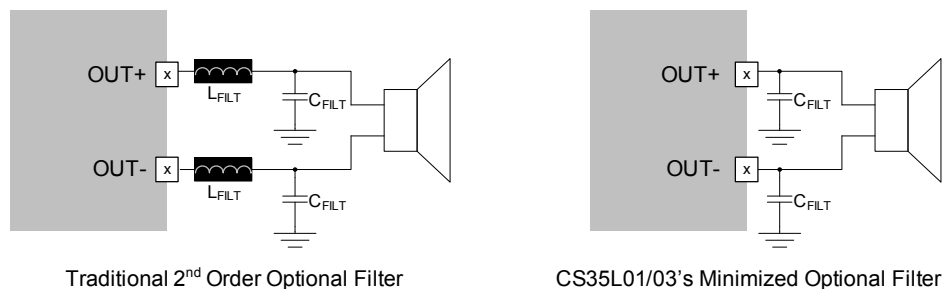

Figure 5. Optional Output Filter Components
In applications which require an output filter, the unique design of the CS35L01/03 allows a much smaller, less expensive output filter to be used than what is normally found in Class-D amplifiers. In contrast to a second order filter implemented with a series inductive element (traditional inductor or ferrite beads) and a shunt capacitive element, basic filtering for the CS35L01/03 is accomplished by a single-order capacitive element attached to the OUTx terminals. This is highlighted in Figure 5 below. Of course, if the system requires more aggressive filtering, a ferrite bead can be added in series with the outputs to further attenuate system level noise.
Selection of the filter components should ensure that shunt elements (i.e. C_{FILT} in Figure 5) present a very low impedance at the frequency corresponding to the tallest peak in the spectral plot. If needed, series components such as ferrite beads (i.e. L_{FILT} in Figure 5) should be chosen to present a very high impedance at the frequency corresponding to the tallest peak in the spectral plot.
16. "Idle Current Draw vs. VBATT - SD Mode" capacitor values refer to C_{FILT} when configured as the "CS35L01/03's Minimized Optional Output Filter," shown in Figure 5 on page 17.